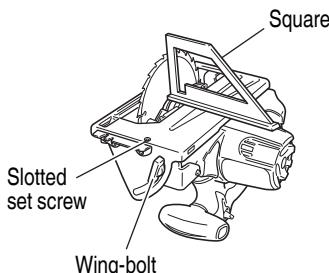

Fig. 21
(1) Turn the base face up (Fig. 21) and loosen the wing-bolt.